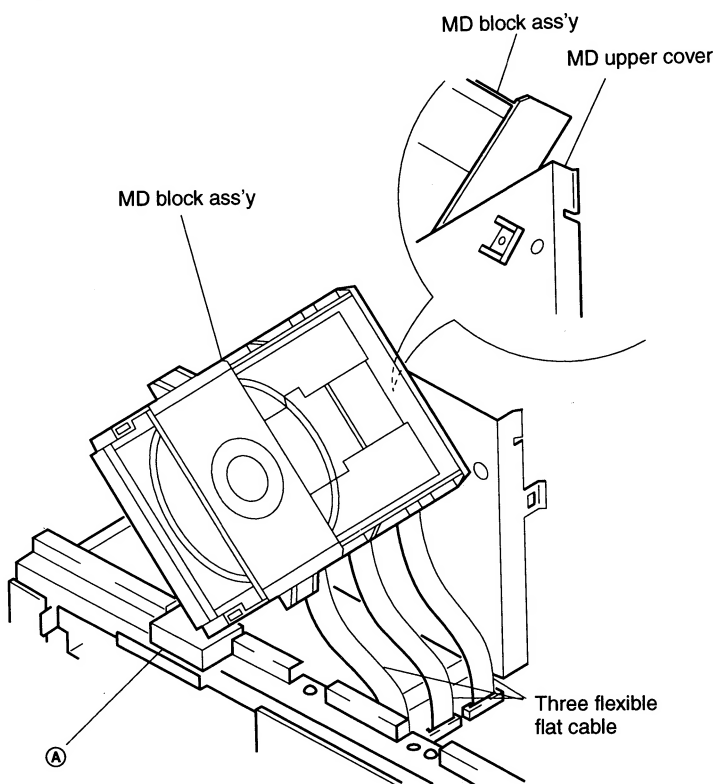

Fig. 4
- 5) Install the MD block ass'y as shown in Fig. 4.